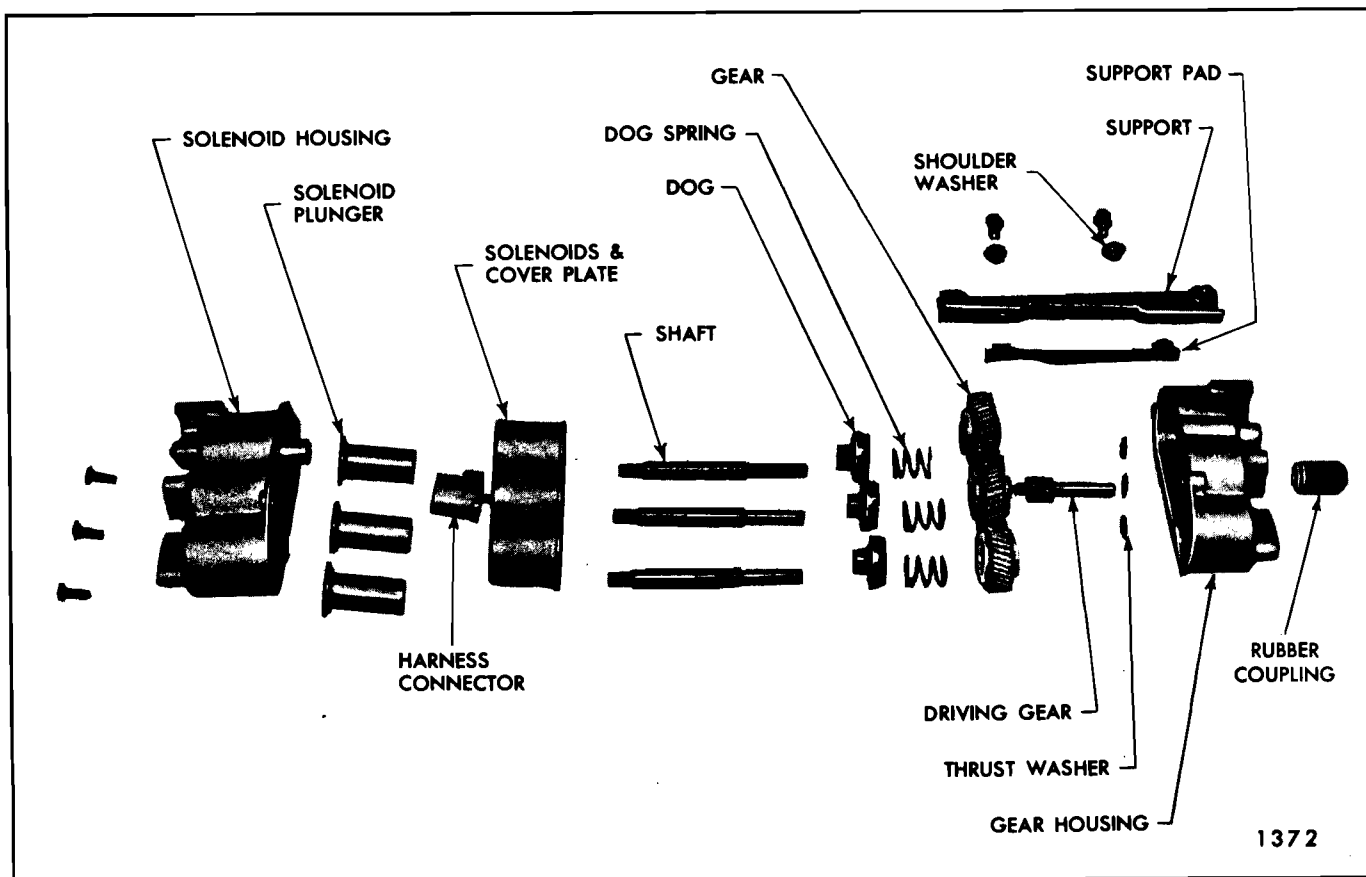

Fig. 15-21—Six-way Seat Adjuster Transmission - "B & C" Full Width Seat
2. Remove screws securing rear gear housing to the solenoid housing; then, carefully separate housings and remove component parts of transmission assembly (Fig. 15-21).